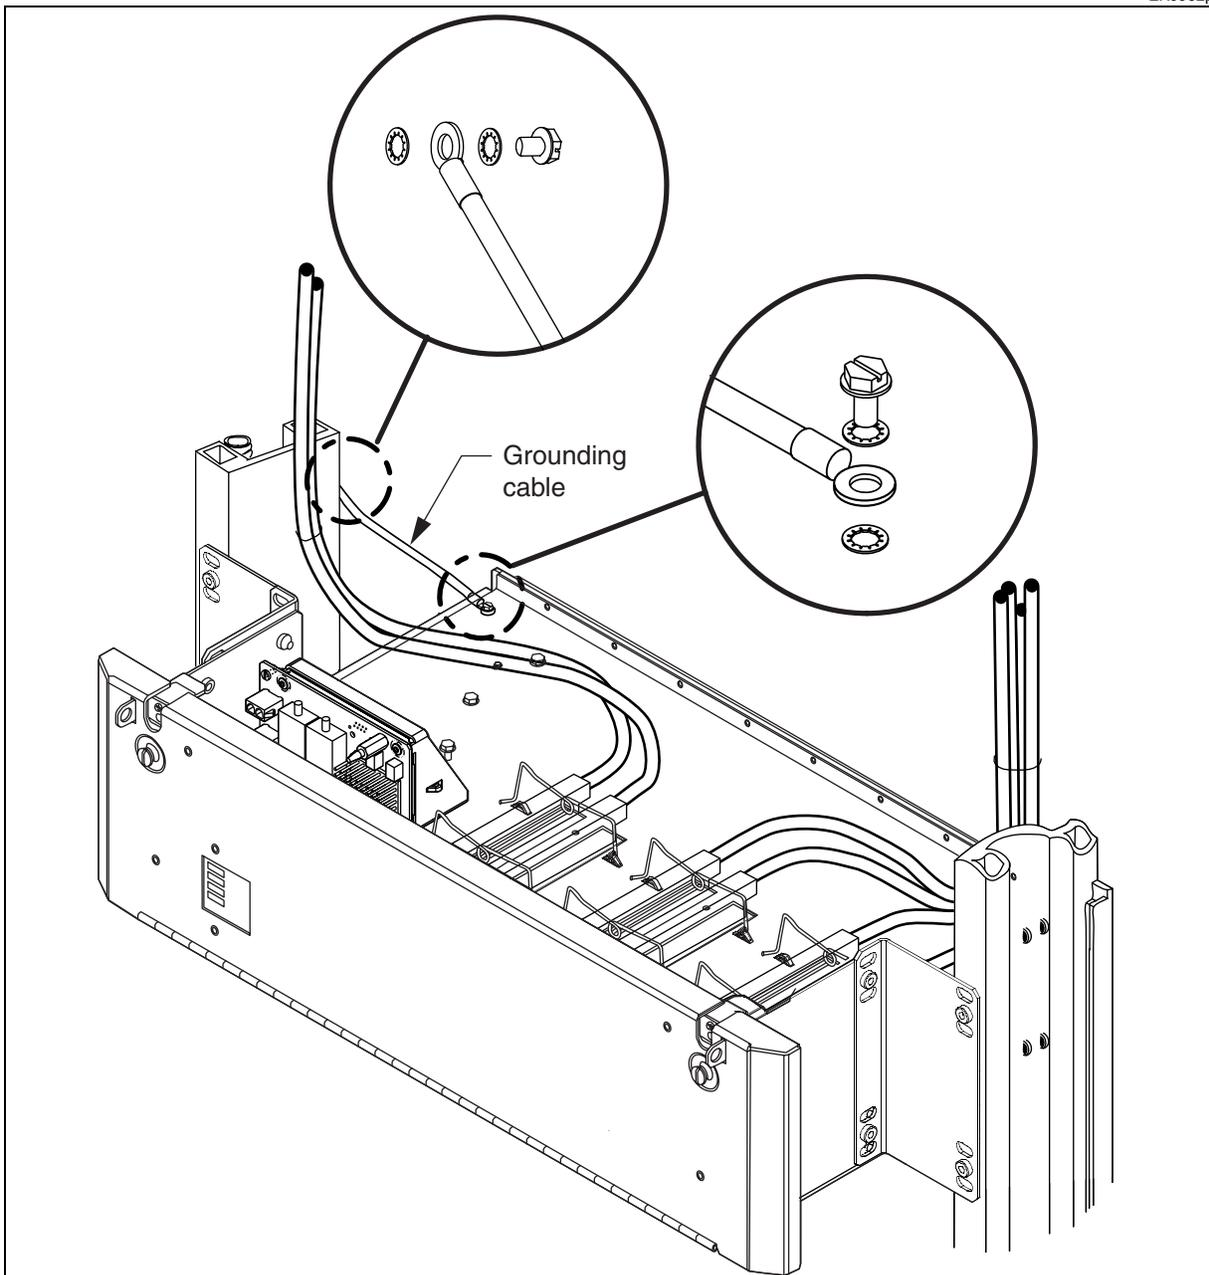

Figure 3-120
3	<p>Connect the non-terminated end of the short segment cable A to the power terminal block on the DSM OAM module.</p> <p>See:</p> <ul style="list-style-type: none"> • Figure 3-120 on page 3-223 • Figure 3-124 on page 3-236
- 14 On the OAM adapter module, switch circuit breaker A and circuit breaker B to off. See Figure 3-120 on page 3-223.